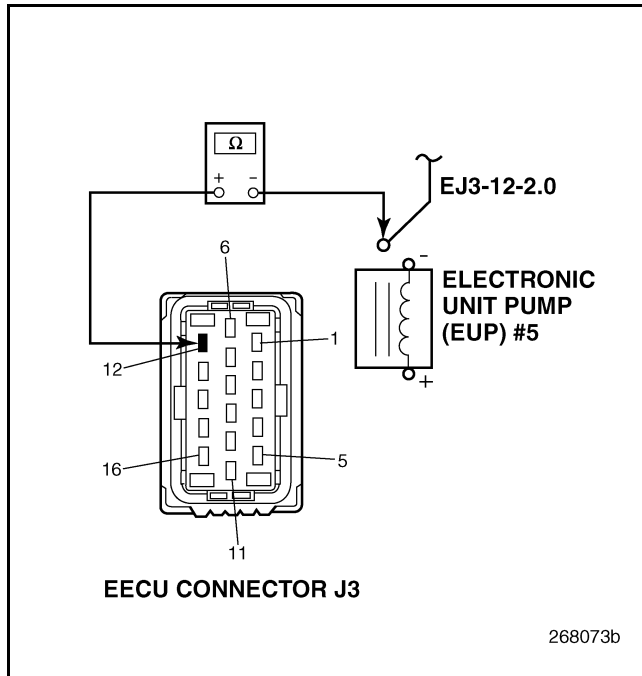

Figure 779
4. Check for continuity between circuit EJ3-12-2.0 at the EUP Solenoid 5 and EECU harness connector J3 pin 12 (see Figure 779).